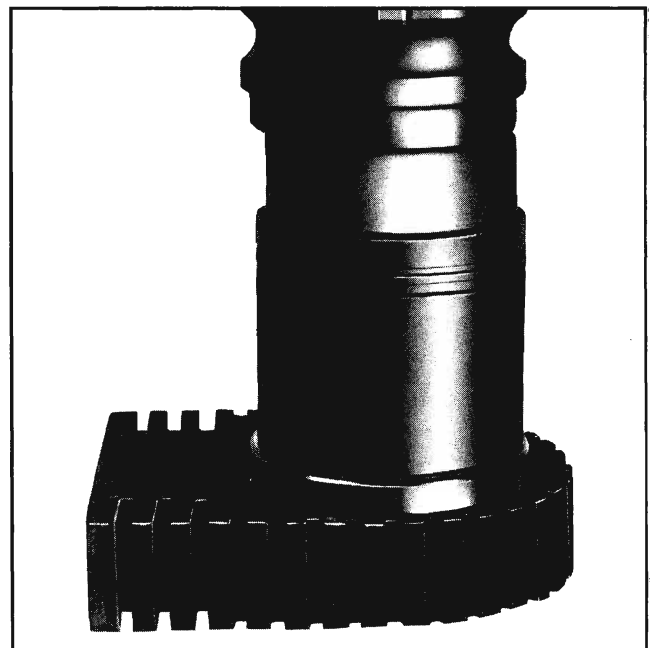

Fig. 4-20 Installing Bearing in Insulator
1. Using socket (Fig. 4-20), press bearing into insulator. Press on outside diameter only.